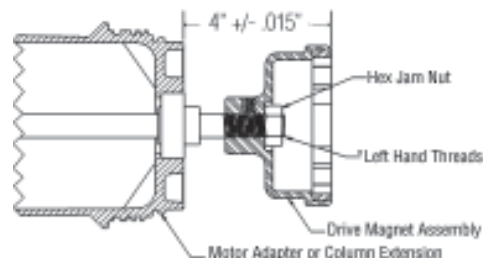

Figure 4
- Install the left hand threaded drive magnet assembly (item 14) onto the drive shaft (item 13) until it is set at 4.00 +/- .015 as measured from the top of the motor adapter/column extension to the top of the drive magnet assembly. See Figure 4. Apply a small amount of Loctite Thread Locker #262 to the inside threads on the 5/8-18 left hand jam nut (item 32) and the outside threads on the drive shaft. Thread the jam nut on until it makes contact with the drive. Hold the drive magnet assembly still and tighten it to 50 ft. pounds. Recheck the drive magnet setting after the jam nut is tight to ensure it did not move.